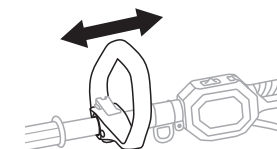

Fig. 2B
2. Position the front-assist handle onto the upper shaft of the trimmer. (Fig.2B)